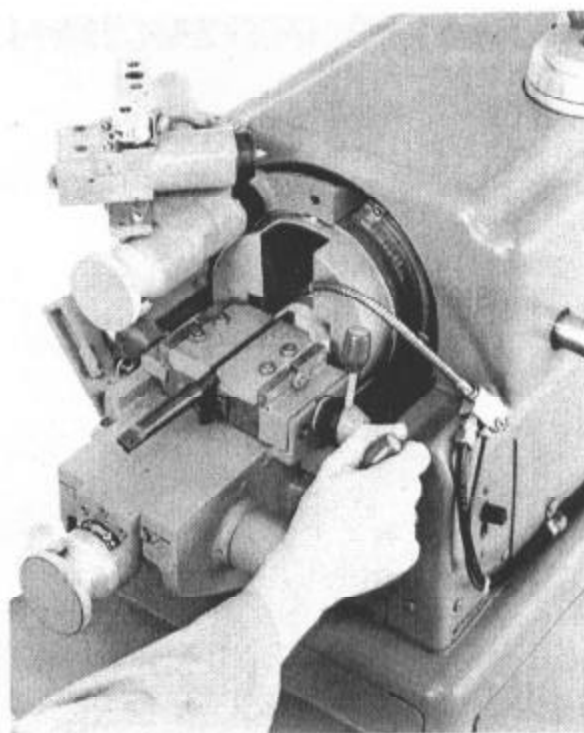

Figure 6.
8. Advance the slide with the rapid advance lever until the end of the travel is reached. (See Figure 6.)